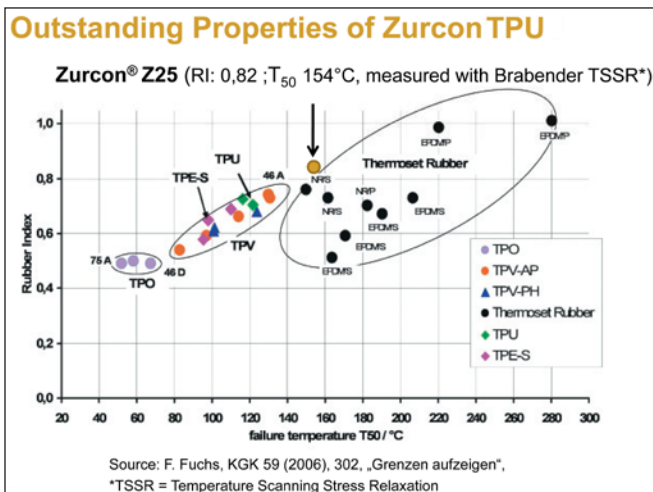

Figure 17—Dynamic mechanical analysis (DMA) measurements comparing storage modulus ( $E'$ ) of high-performance MDI material with NDI and PPDI materials.
In comparing the two materials, the high-performance MDI material is clearly superior, despite the 10°C increase in test temperature. This is evidenced also by comparing the change of interference (Appendix, Fig. 17) when comparing all four TPU compounds.
**TSSR testing.** Brabender TSSR testing was employed to characterize the new high-performance MDI material and to compare it with published data on other thermoplastic and thermo-setting sealing materials. (*Editor’s Note: Temperature scanning stress relaxation is an anisothermal stress relaxation test method that also enables conventional isothermal relaxation measurements.*) Figure 17 (Appendix) shows that it appears to be superior to the other thermoplastic polyurethane materials in terms of T50 failure temperature and rubber index value; i.e., a measure of stress relaxation with varying temperature. A theoretically perfect material would have a rubber index of 1.